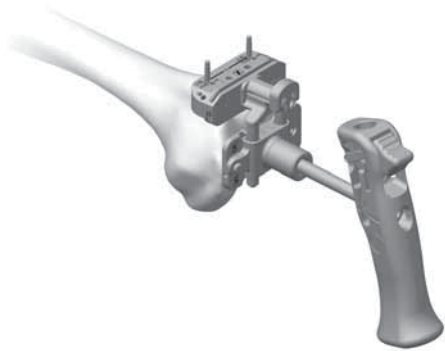

Fig. 113
- Insert a Trocar Tipped Pin through each of the standard pin holes marked '0' on the anterior surface of the Cut Guide (Fig. 113).